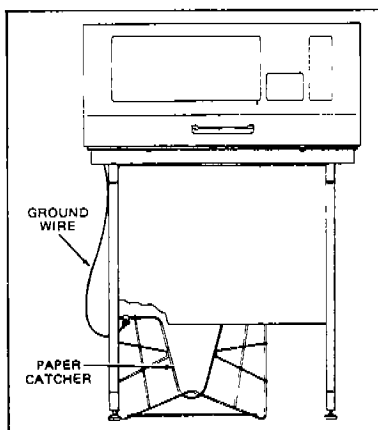

Figure 12
i. Place paper catcher (wire basket) on floor between pedestal feet, with one end against left-hand base of pedestal (figure 12).